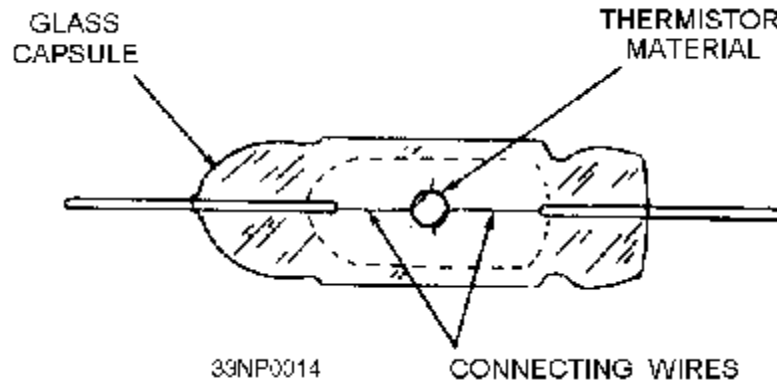

Figure 2-3.—Bead-type thermistor.
**THERMISTOR.**—A high degree of precision is made possible by the thermistor; therefore, it is widely used. Figure 2-3 shows the typical construction of a bead-type thermistor. The negative-temperature coefficient comes from the use of a semiconductor as the active material. Notice that the